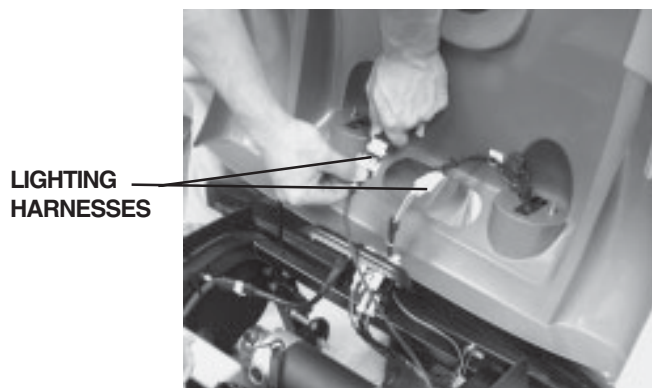

Figure 18. Disconnect Lighting Harnesses
4. Gently lift the rear shroud off of your scooter far enough to be able to disconnect the rear light harnesses. See figure 18. The rear shroud is held in place with a reusable fastener.